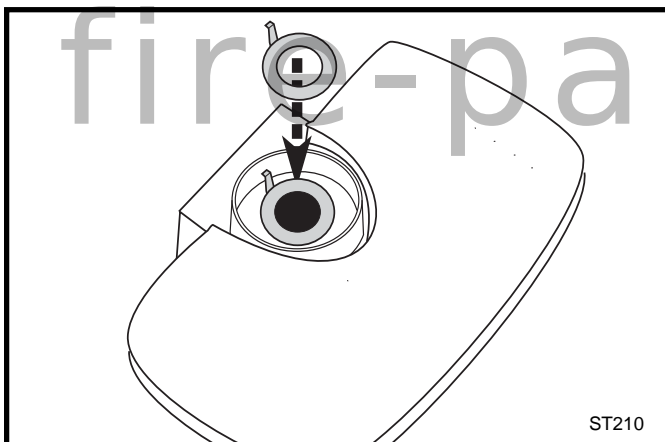

Fig. 22 Install the restrictor plate only if required for the venting configuration. Refer to page 8.
1. Install the Restrictor Plate. Consult the 'Vent Run Specifications' on page 8 to determine whether the restrictor plate is needed. If so, put the restrictor plate in place within the inner flue collar as shown in Figure 22.
1. **Install the Restrictor Plate.** Consult the 'Vent Run Specifications' on page 8 to determine whether the restrictor plate is needed. If so, put the restrictor plate in place within the inner flue collar. (Fig. 22)